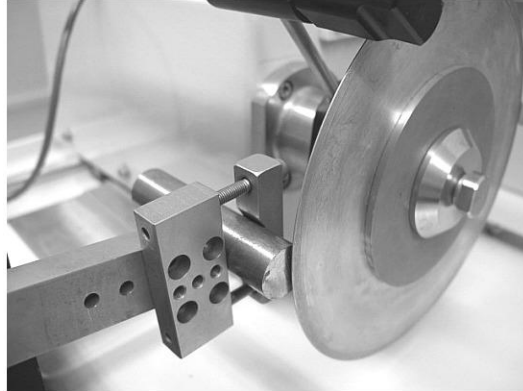

Figure 6 Blade behind the specimen
- b. Turn the hand crank counter-clockwise to bring the blade forward until it is just behind the and almost touching the specimen (see Figure 6).
- d. Turn the hand crank counter-clockwise until the blade travels the width of the cut (see **Figure 6**).